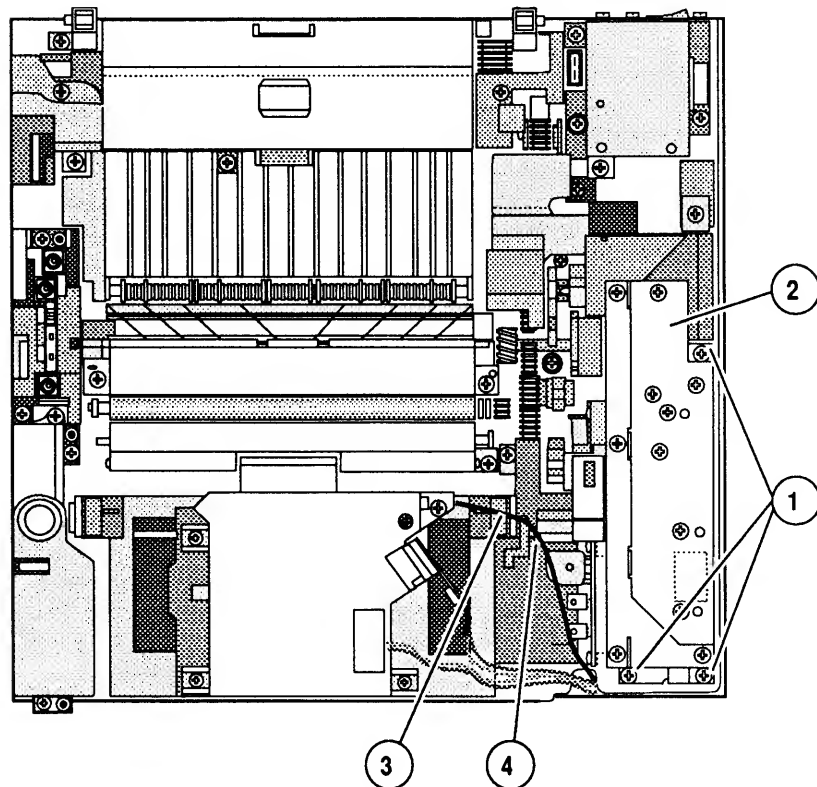

FIGURE 35
6. Remove the three Phillips screws (Figure 35, #1) that secure the DC power supply (Figure 35, #2) to the chassis.
7. Remove the optical fiber (Figure 35, #3) from its holder (Figure 35, #4) on the distribution cover.
2. Replace the three DC power supply screws. The screw with the star washer should be used at the left side of the power supply. Refer to Figure 35 if necessary.
3. Place the optical fiber in its holder. Refer to Figure 35.